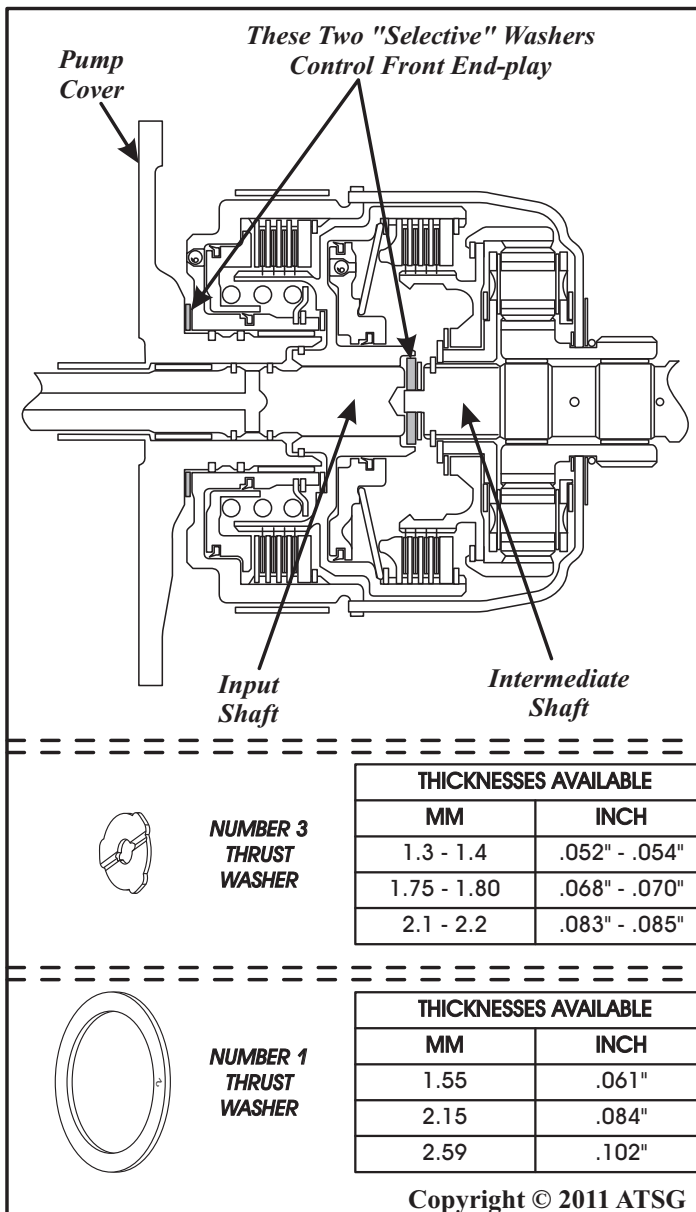

Figure 244
75. There are 3 selectives available for number 1 thrust washer and 3 selectives available for the number 3 thrust washer, as shown in Figure 244.